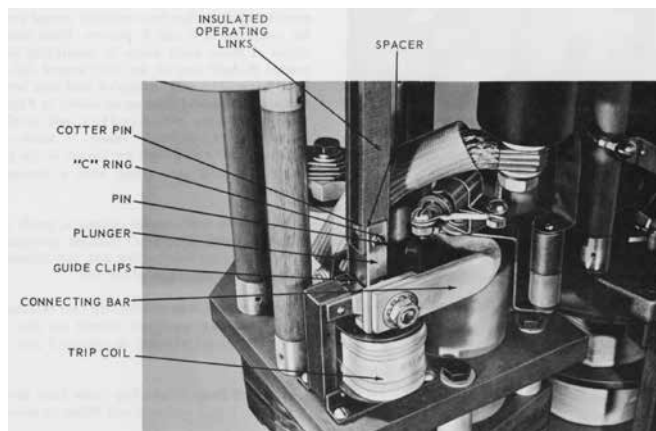

Figure 1. Series trip solenoid with standard coil.
amperes. These standard coils are illustrated in Figures 1 and 2 and are assembled completely inside the solenoid frame.
4. Remove cotter pin, and slide out pin and spacer that connect the insulated operating links, Figure 1, and the solenoid plunger.